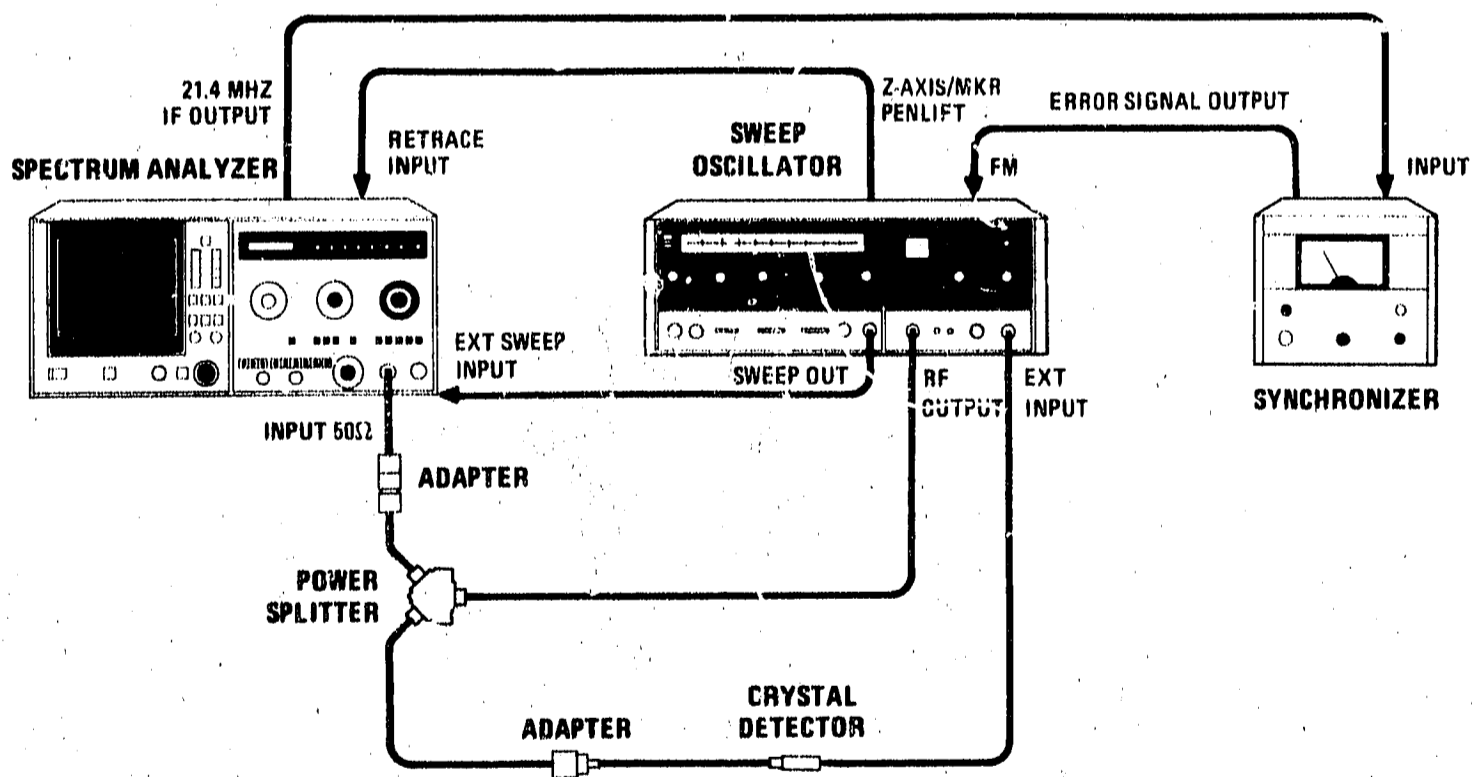

Figure 5-47. Preliminary Bias Adjustment Test Setup
2. Reconnect power cord, set LINE switch ON, and connect equipment as shown in Figure 5-47. Set all normal (green) spectrum analyzer controls, except as indicated, and other controls as follows: